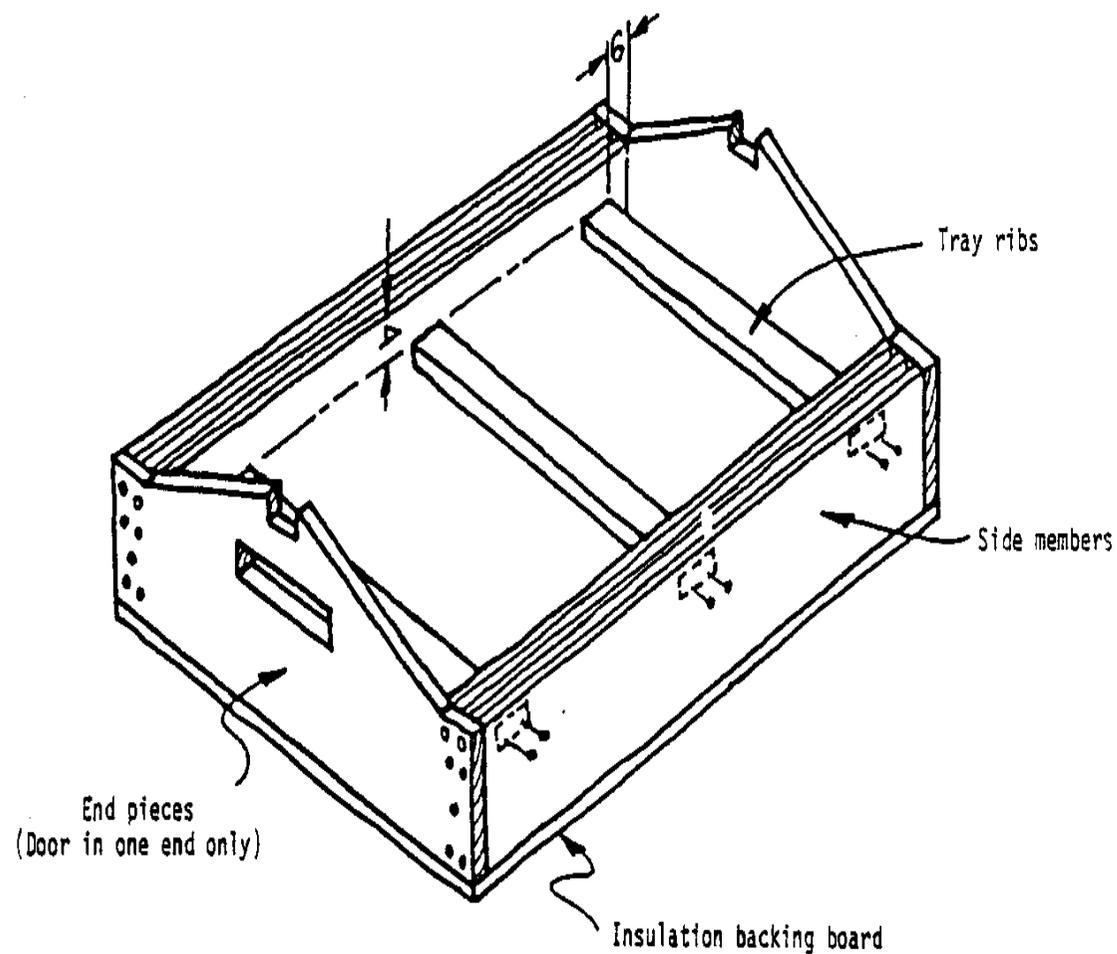

Figure 10. Still with End Sections and Ribs in Place
3. As shown in Figure 10, nail the end sections to the side
4. Nail the hardboard or plywood insulation retaining sheet in place beneath the tray ribs (see Figure 10). (If hardboard is used, it should be soaked in water for at least 24 hours, removed from water and allowed to dry thoroughly; then nailed in place.) Nail edges closely to prevent bulging at the seams.